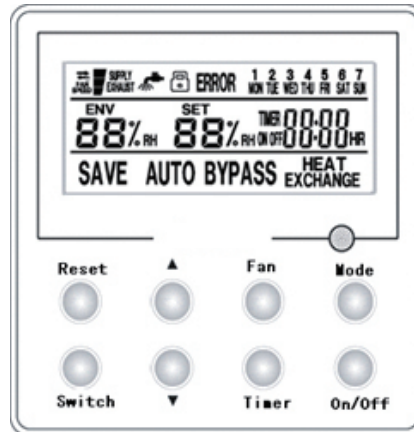

Fig.2
- (1) Press ON/OFF button to start the unit. (Fig.2)
- (2) Press ON/OFF button once again to stop the unit.
(3) Under the "Off" status, pressing the "Mode" key for 5 seconds can activate the memory function upon power failure. In this case, when 01 is displayed at the temperature set point area, it indicates the memory function has been activated. When 02 is displayed, the memory function has been deactivated. Then, by pressing the 'On/Off' key, this setting can exit. At the setting page, if there is not any operation during 20 seconds, the control will back to the normal "Off" status. The memory function is defaulted to be deactivated.